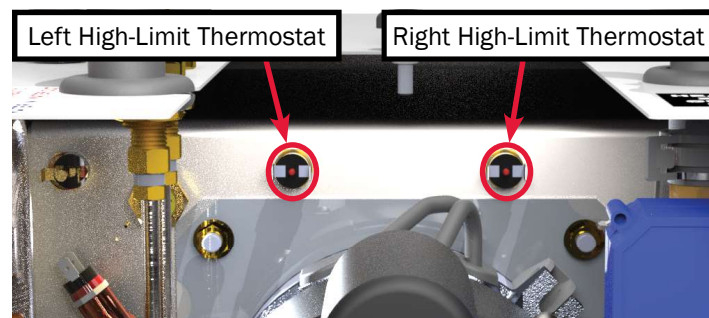

Figure 24
1. Locate the high-limit thermostats (see Figure 24).